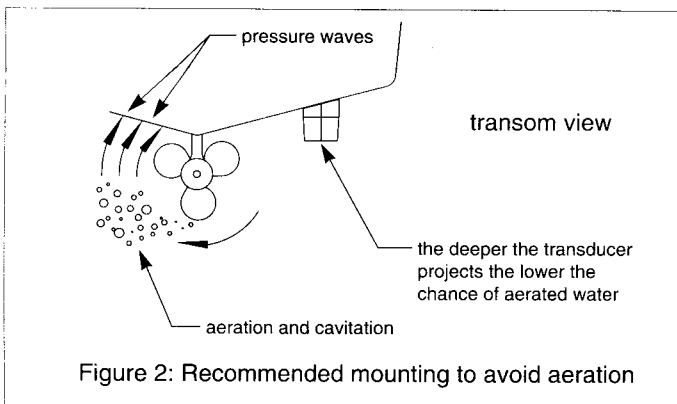
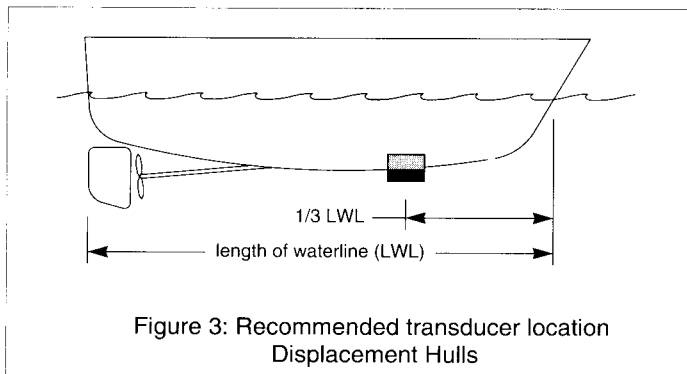

Figure 2: Recommended mounting to avoid aeration
Figure 3: Recommended transducer location Displacement Hulls
- Minimizes the chance that aerated water will flow across the transducer's acoustic window (ref. **Figure 2**).
- A. On **displacement hulls** (sailboats, trawlers, etc.) Locate the transducer about 1/3 aft along the waterline (ref. **Figure 3**). Generally this provides the best compromise between obtaining aeration-free water and minimizing propeller noise. Aerated water reflects ultrasound and blinds an echosounder. Water near the bow and water near the keel can be quite aerated. Aeration of the transducer can be minimized by keeping the transducer mounted away from the keel, as shown in **Figure 2**, and by not mounting too far forward (ref. **Figure 3**). Also keep in mind that the deeper the transducer protrudes into the water, the less chance of aeration.